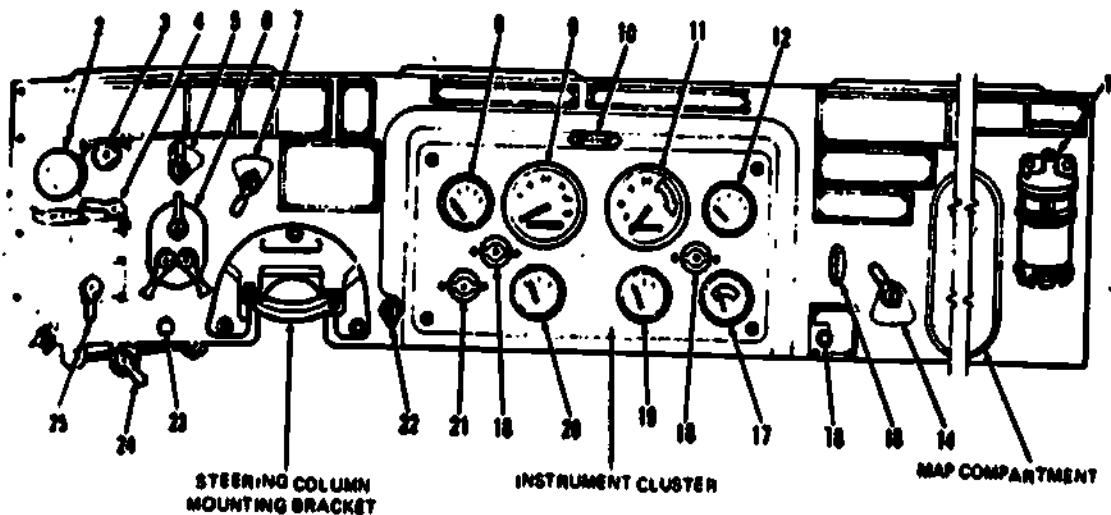

Fig 3-1. Typical instrument panel M-Series.
Study figures 3-1 and 3-2 as examples of instrument panels found in the newer 5-ton vehicles. Start with the hand control throttle. It is used to set engine speed at any desired rpm for fast idle, warm up, or operation of auxiliary material. When the control knob is out it may be locked in any desired position. Rotating the control knob clockwise or counterclockwise unlocks it, and moving the control knob to the in position causes engine rpm to return to set idling speed.
The vehicle lighting switch is located on the instrument panel to the left of the steering column. Refer to Figure 3-1, item 6 for operation of vehicle lighting switch.